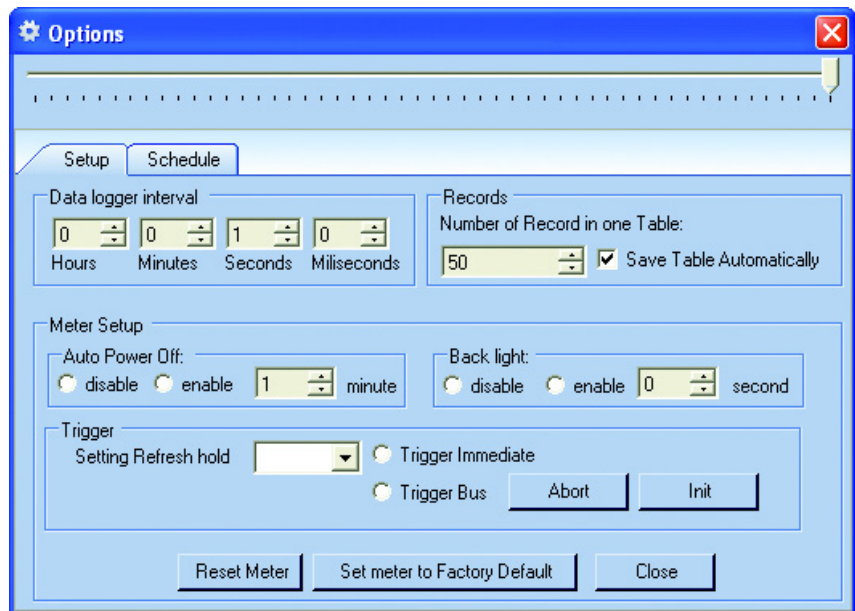

Figure C-1 User setting **Setup** tab
- Setup (figure C-1)
- ✓ In **Setup** tab, there are three sections (figure C-1)